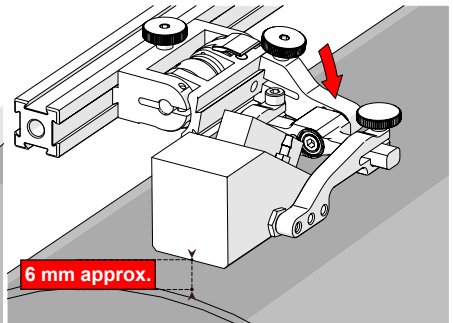

Fig. 138 - Lower to scanning surface
2. Push the probe holder yoke down toward the inspection surface until the wedge is approximately 6 mm ($\frac{1}{4}$ in) from the inspection surface (Fig. 138).